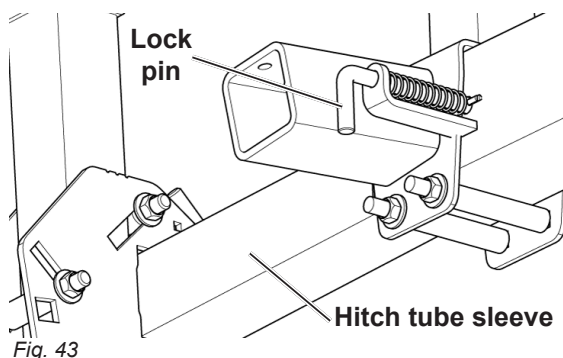
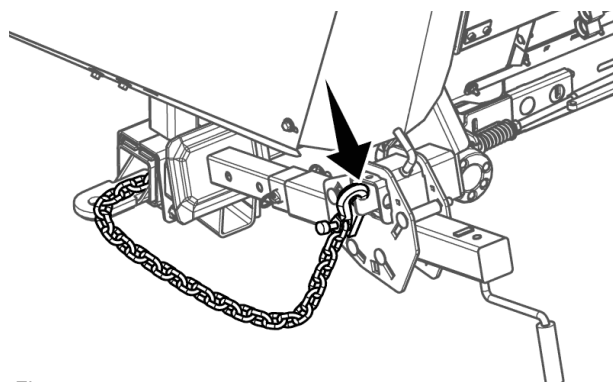

Fig. 43
Fig. 44
4. Pull the Lock Pin on the hitch tube and slide the tube into the storage sleeve. Refer to Fig. 43. Attach the hitch safety chain to the storage stub as shown in Fig. 44.